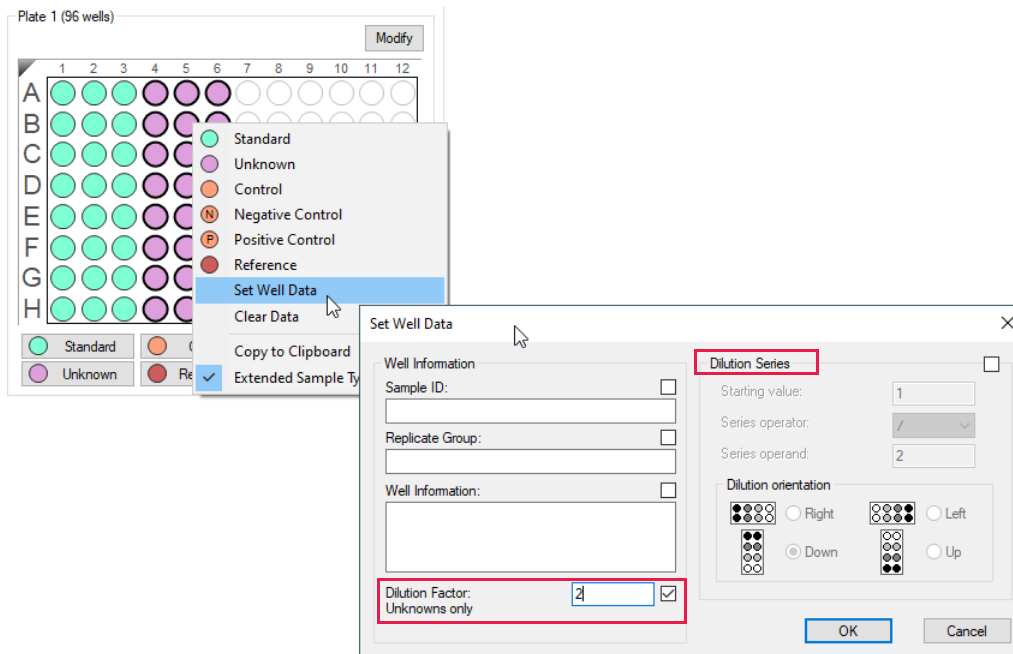

Figure 6-10: Sample Plate Map—Setting a Dilution Factor or a Serial Dilution
The **Set Well Data** dialog box appears (see Figure 6-10).
1. In the **Set Well Data** dialog box (see Figure 6-10), select the **Dilution Factor** option.
1. In the **Set Well Data** dialog box (see Figure 6-10), select the **Dilution series** option.